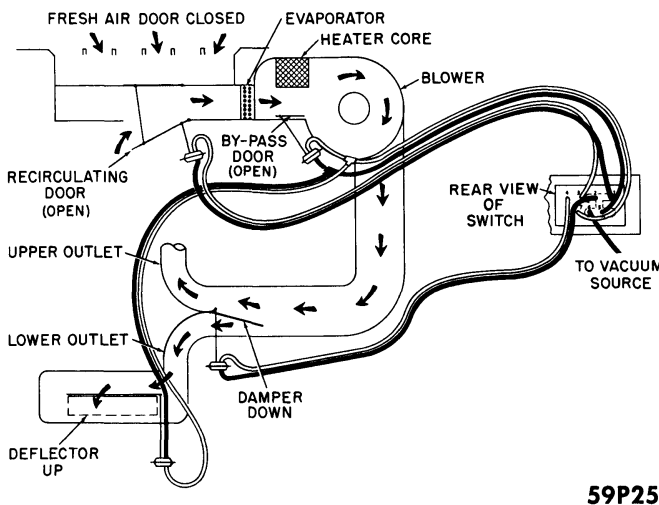

Figure 7—Off and max. cool position
For instance, with the "OFF" "MAX. COOL" (MC) button depressed, the fresh air door is closed and the recirculating door is open. The air flow is into the open recirculating door through the evaporator and blower to the distribution duct, Figure 7.